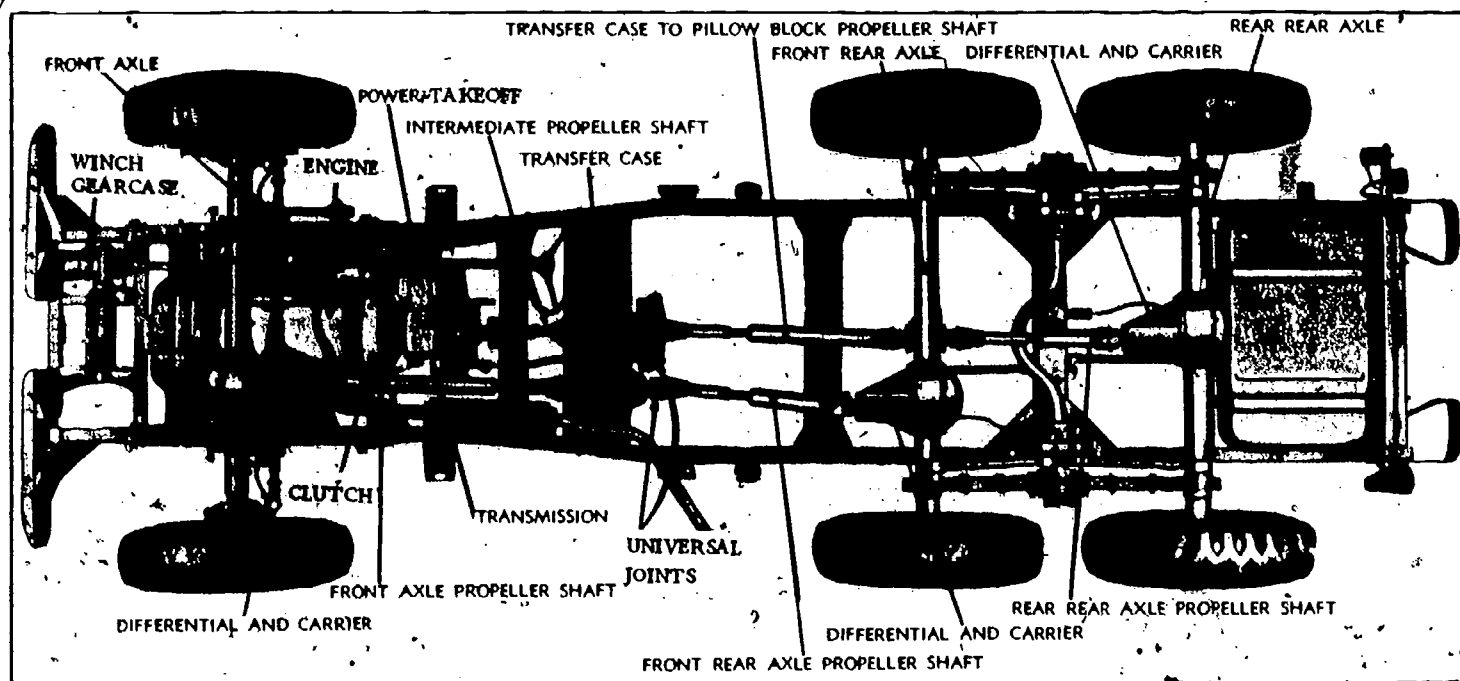

Fig 3-1. Power train components of a wheeled vehicle.
a. Wheeled vehicles. The components used in the power train of a wheeled vehicle will depend on the vehicle's use and its accessories. The basic components of a wheeled vehicle power train are shown in figure 3-1. Power for the complete power train flows through the clutch. It flows from the engine through the clutch, transmission, transfer case, propeller shafts, universal joints, differential, and axles to the front and rear wheels. Power for the winch flows through the clutch to the transmission and then through the power-takeoff (PTO), propeller shaft, and universal joints to the gearcase of the winch.